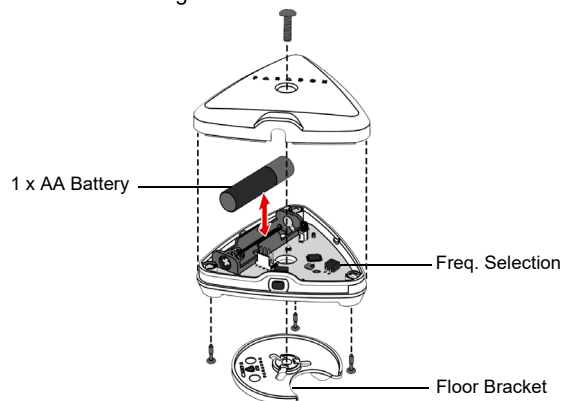

FIGURE 3
2. **Bracket:** Remove the bracket installed under the WD1. Remove the double-sided tape protective film from the bottom of the bracket and secure bracket to the floor. Align the WD1 to the bracket until it snaps into place. Secure the mounting screw using a Phillips screwdriver, as shown in Figure 3.
3. **Without Bracket:** Secure an appropriate flat-head screw using a Phillips screwdriver, as shown in Figure 3.
5. Remove the old battery and replace with a new battery (verify the polarity and insert properly + and - marked on the battery terminals), see Figure 3.